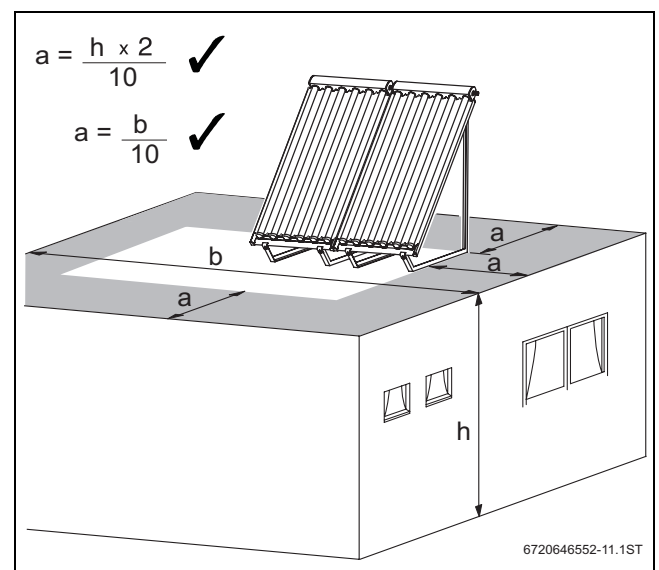
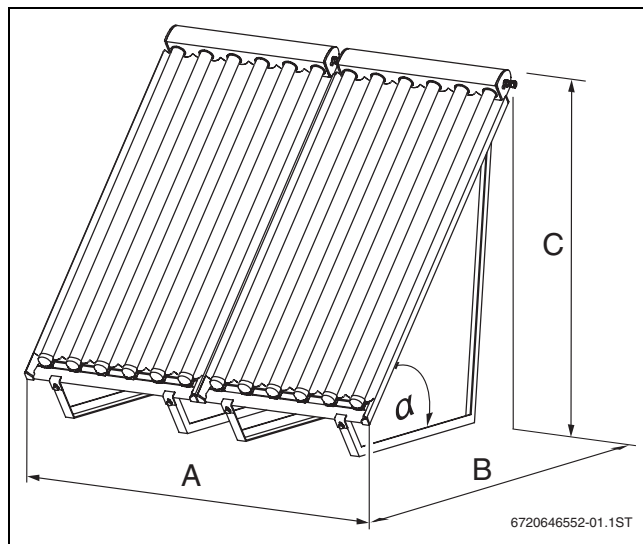
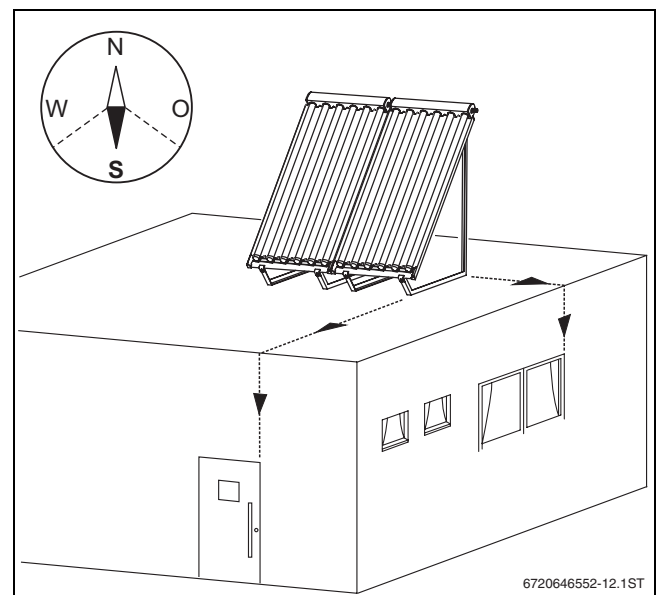

Fig. 12 Minimum clearance from the roof edge (dim. a); both formulae can be applied
Fig. 14 Collector array site
Fig. 18 Example: Adapt the collector array as flat roof installation to the shape of the building
The space requirement is determined by the installation area of the collector array ( $\rightarrow$  Fig. 14). When siting the collector array ensure that the minimum clearances from the roof edge are maintained ( $\rightarrow$  Fig. 12 and 13).
- Align the collector array towards the south, where possible (→ Fig. 18).
- Arrange the collectors in a visually appealing way on the roof, for example, so that the collector array is in line with windows and doors (→ Fig. 18). However, observe the minimum clearances towards the edge of the roof (→ Fig. 12).